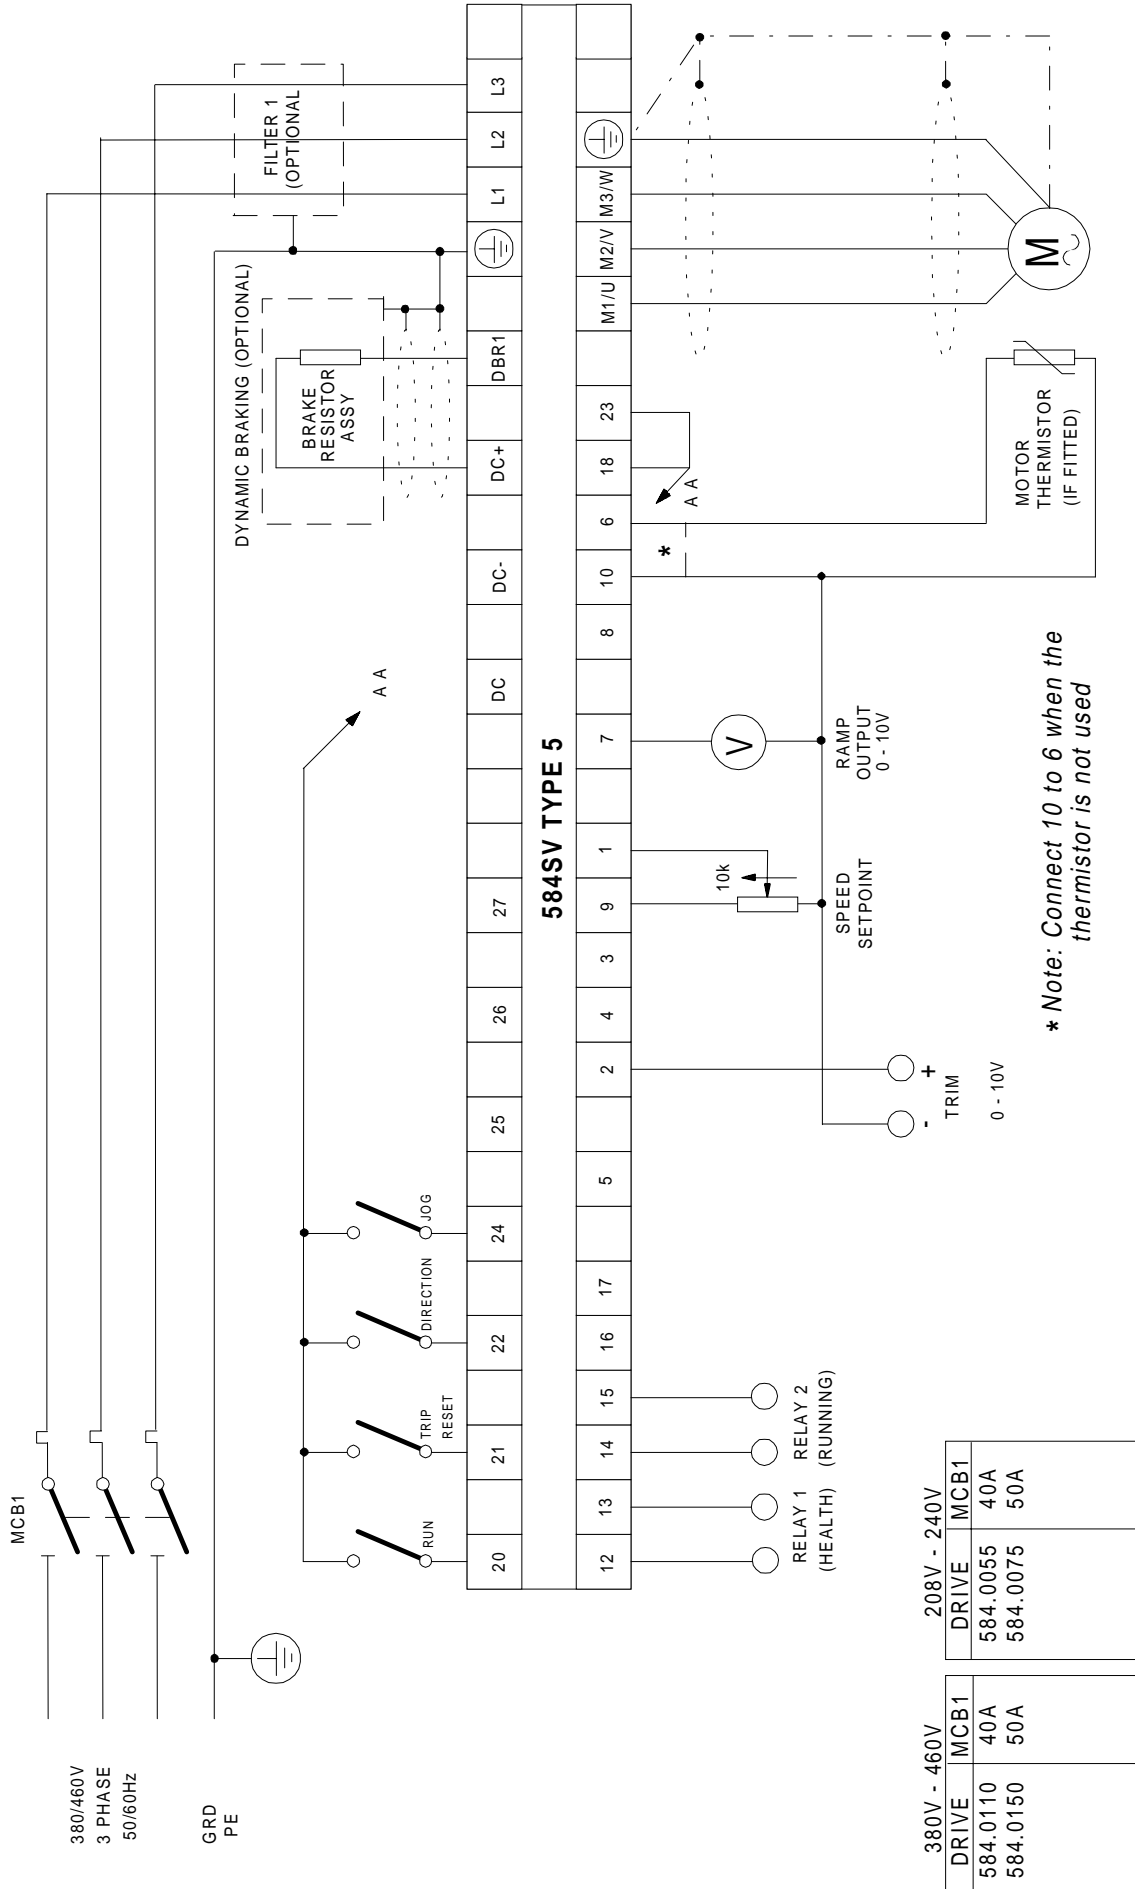
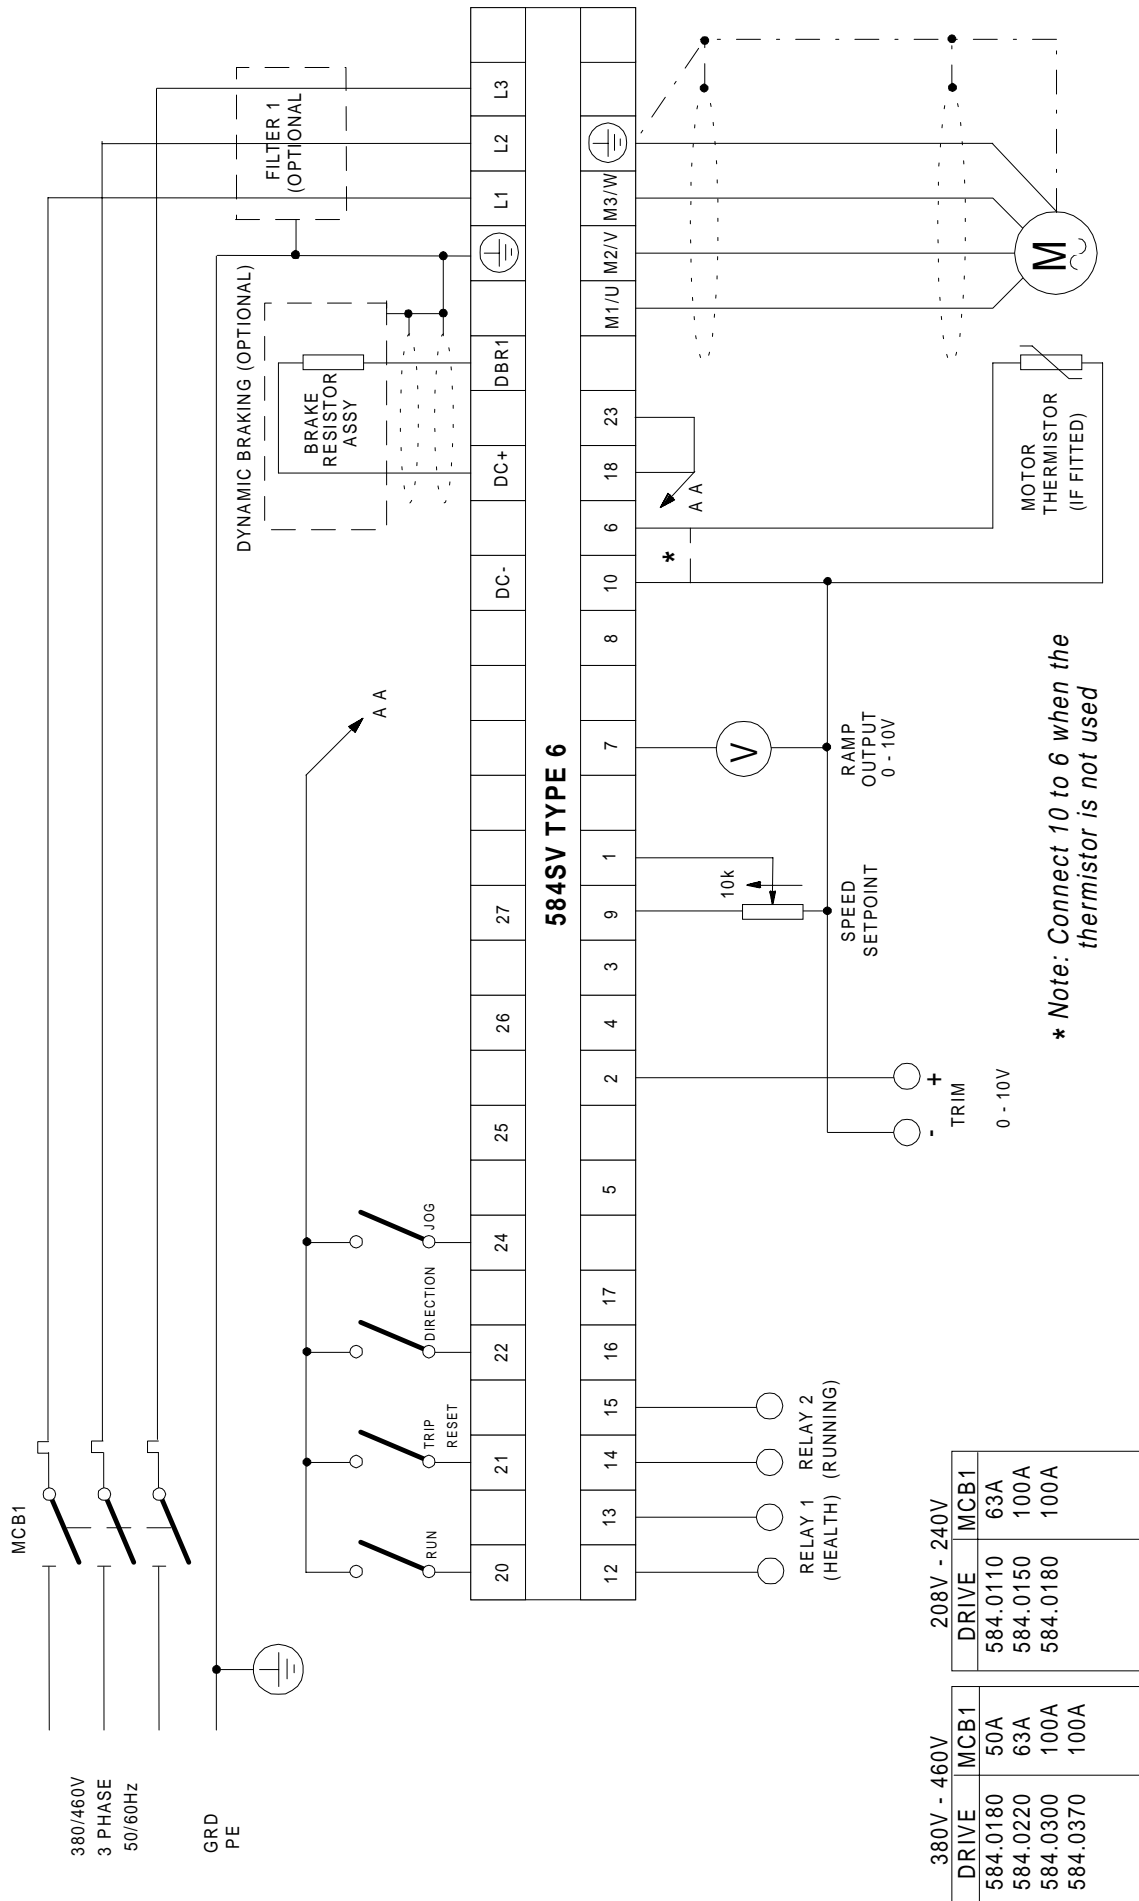
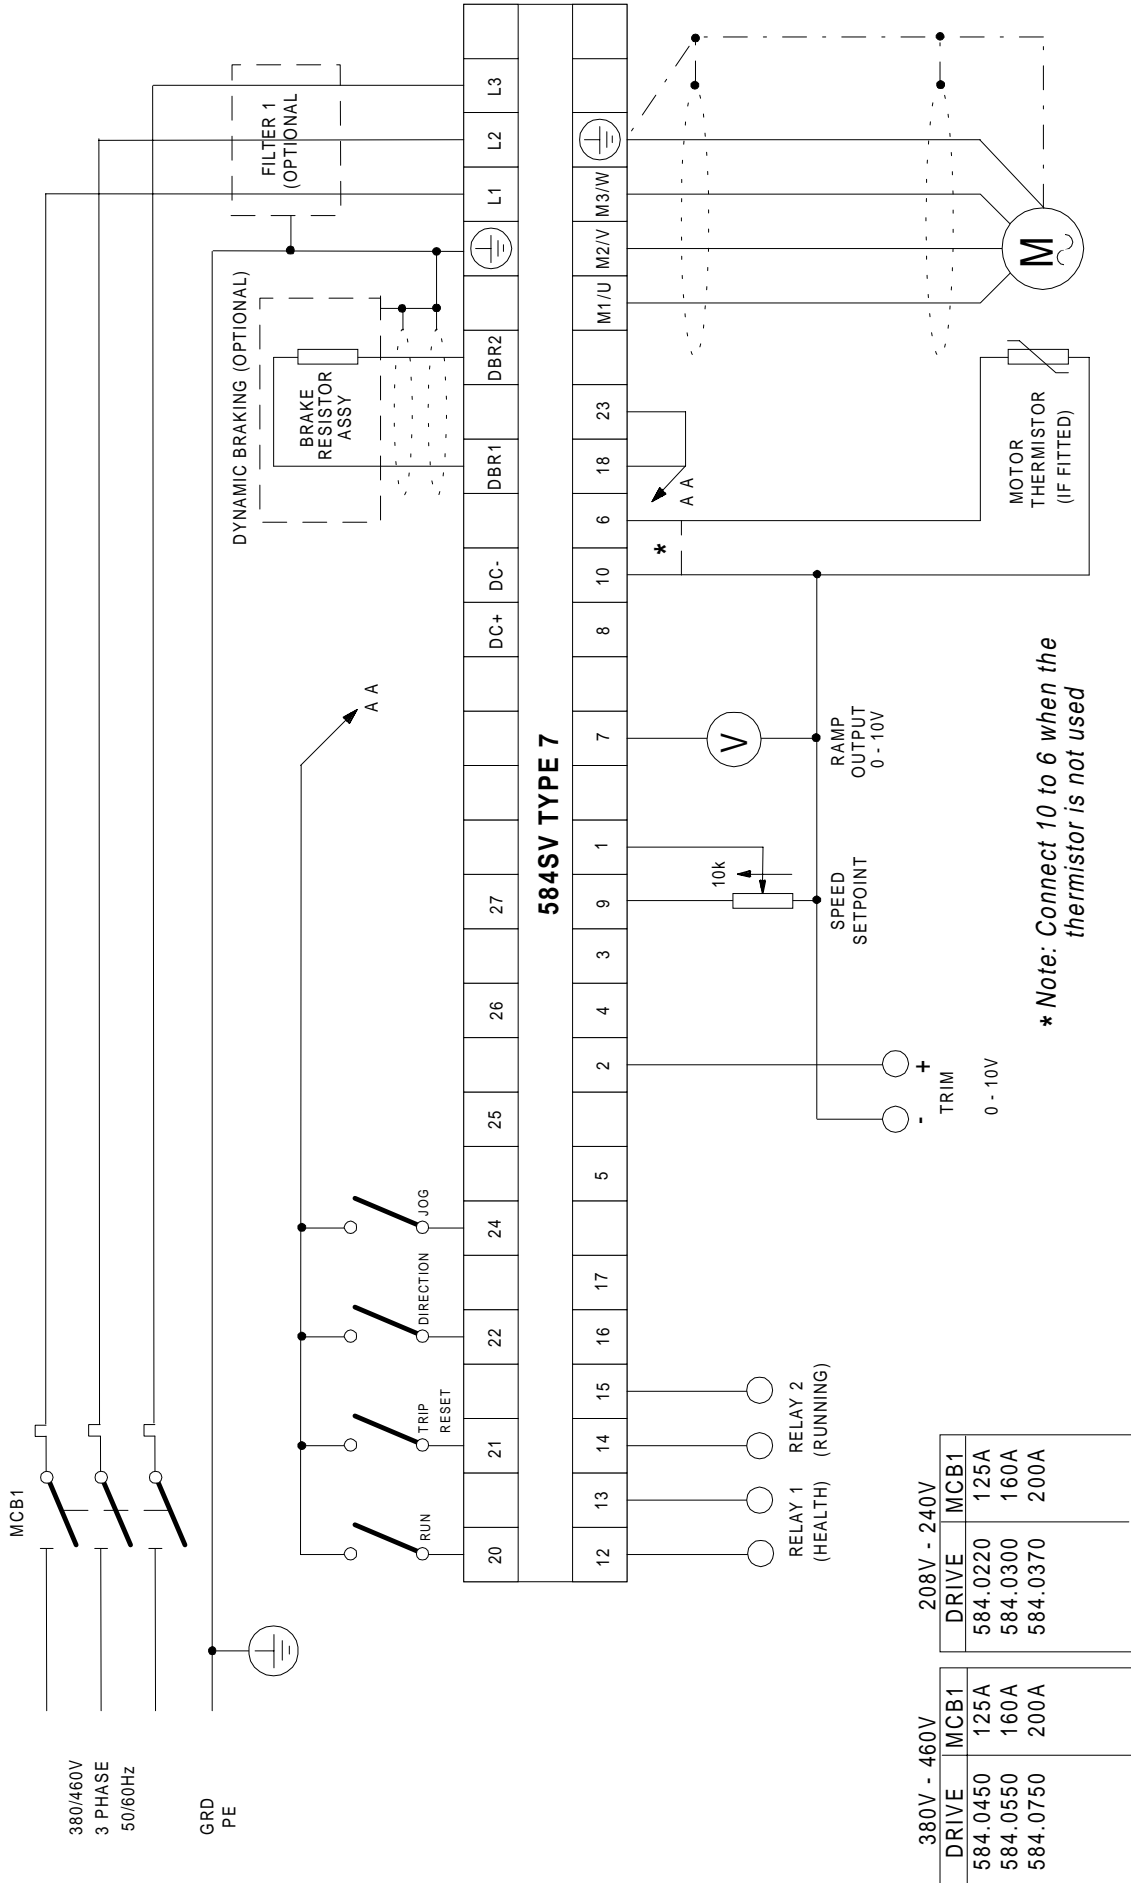

Figure 3-19 General Wiring Diagram for Macro 1 - 584SV Type 5
Figure 3-20 General Wiring Diagram for Macro 1 - 584SV Type 6
Figure 3-21 General Wiring Diagram for Macro 1 - 584SV Type 7
1. Feed the control cables into the Inverter and connect to the control terminals. Refer to Figure 3-18, Figure 3-19, Figure 3-20 or Figure 3-21 for connection details when using Macro 1 (default). Refer to Chapter 15: "Application Macros" for information when using other macros.